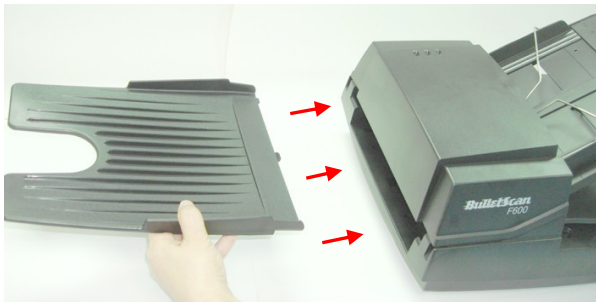

Figure 2-4 Install the ADF Output Paper Tray
1. Hold the output paper tray about 30 degrees up as shown in Figure 2-4.